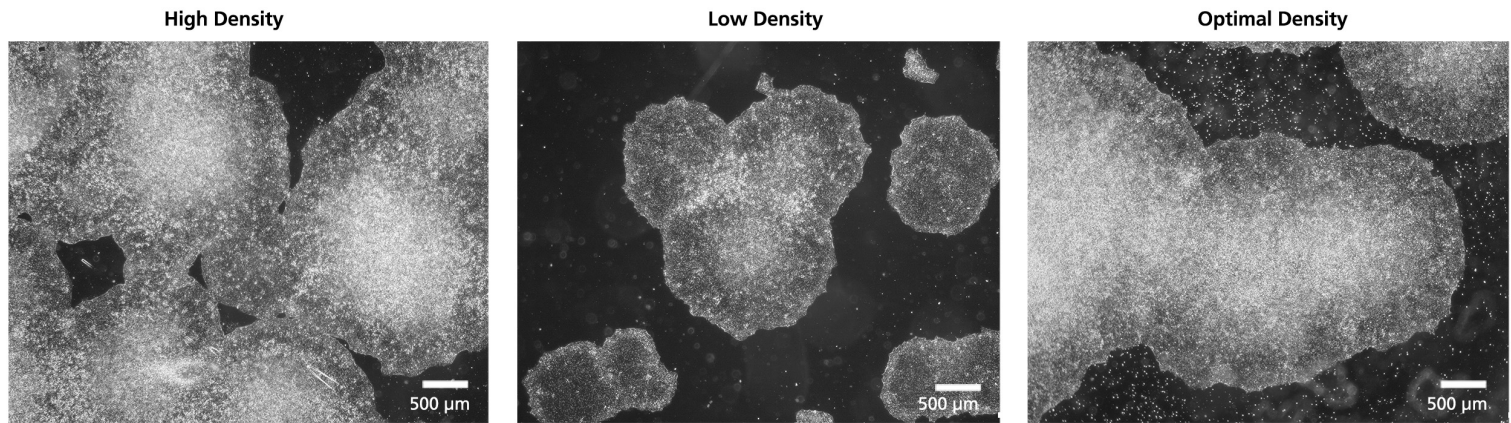

Figure 2. SCTi003-A-1 hiPSCs Demonstrate Varying Colony Densities When Seeded at a Range of Starting Concentrations.
14. On Day 6 - 8, select the well with optimal hiPSC colony density for passaging (Figure 2). The culture should consist of healthy hiPSC colonies that are medium to large, compact, and have centers that are dense compared to their edges.